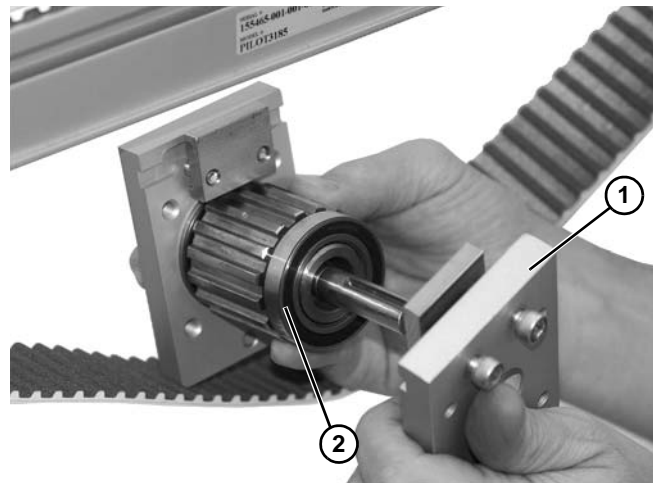

Figure 70
4. Separate mounting blocks (**Figure 70, item 1**) from spindle (**Figure 70, item 2**).